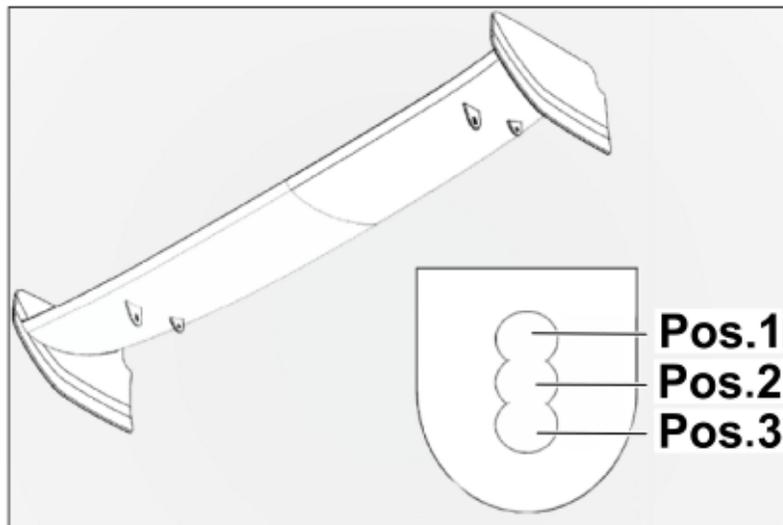

Figure 70
- 46. – The incline of the rear wing can be adjusted using three holes in the front fastening straps ⇒ *Figure 70*. Wing position 3 represents the standard setting (delivery status).